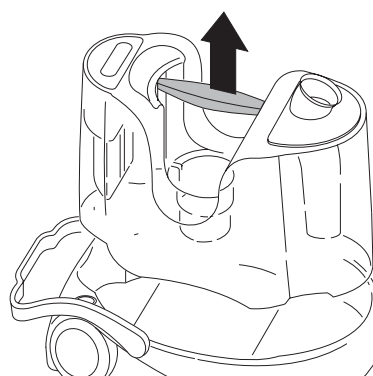

fig. 3
- Remove the wet/dry tank **E** using the handle on the tank (Fig. 3).